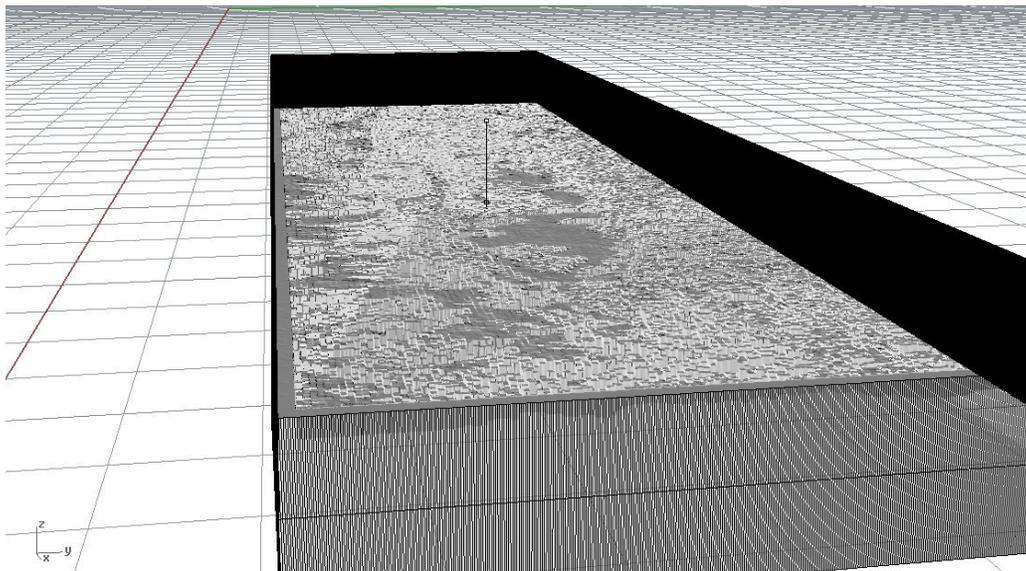

Figure 1.7 Extruded polysurface from `DupBorder` command Curve.
8. Select the curve you just created on the mesh edge. Enter the command ExtrudeCrv and extrude the curve 10mm (make sure that the solid setting is OFF, you just want a surface) (fig 1.7)